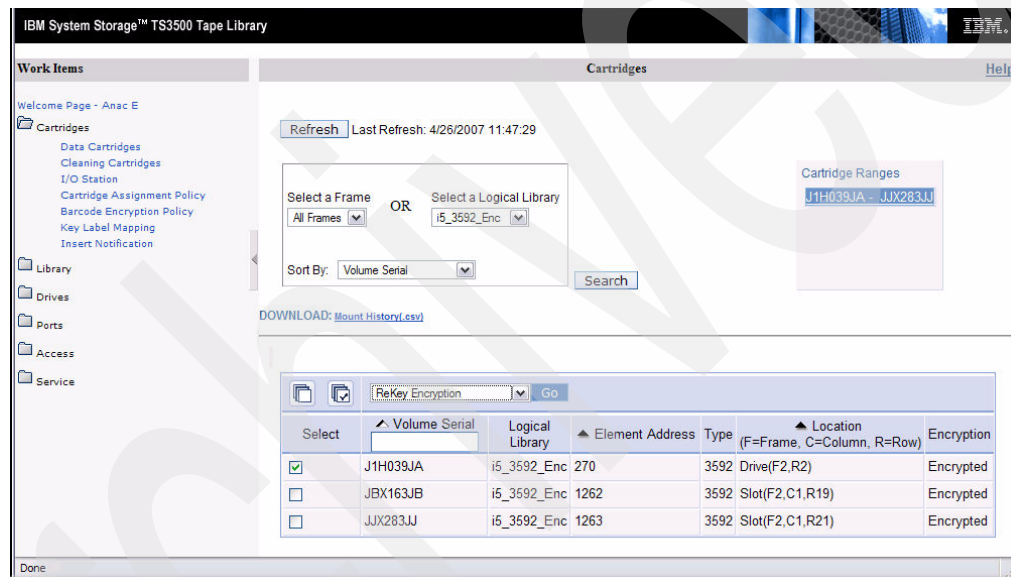

Figure 7-56 IBM TS3500 Specialist - Cartridges screen with selected ReKey Encryption option
1. Encrypted 3592 tape cartridges loaded into a Library-managed Encryption-enabled drive are *re-keyed* via the IBM Tape Library Specialist Web GUI **Manage Cartridges** → **Data Cartridges** menu option **Rekey Encryption** shown in Figure 7-56.